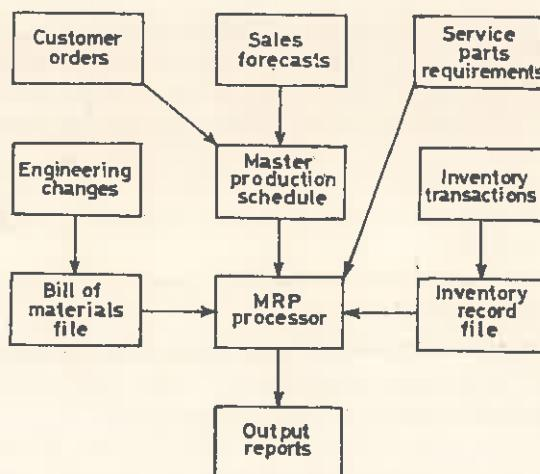

Fig. 24.8. Structure of an MRP system.
Fig 24.8 shows the flow of data into the MRP processor and its conversion into useful output reports.
- The MPR processor (Fig 24.8) operates on data contained in the master schedule, the bill-of-materials file and the inventory record file.